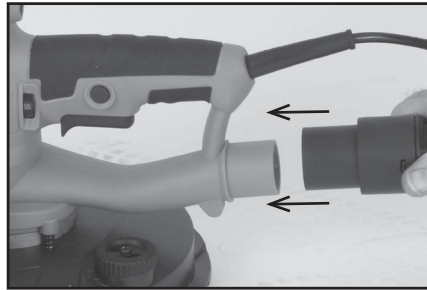

Fig. 3
- Push the Dust Extraction Hose onto the dust extraction port on the machines main body. **(Fig. 3)**